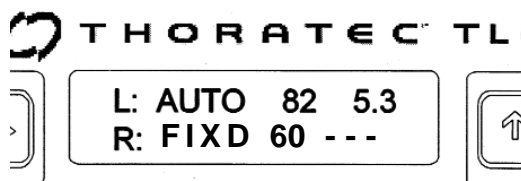

Figure 5.2 Example of Display Showing “- - -” for Invalid Flow Measurement
5.1.2.2 When a full signal is not present, "- - -" is displayed instead of a numeric value for VAD blood flow (**Figure 5.2**).